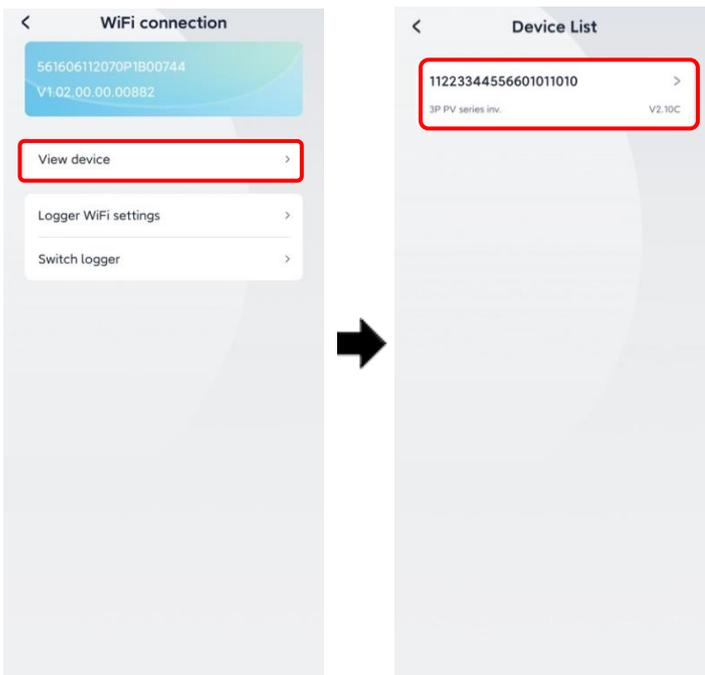

Figure4-11 Device list
Step 11 Click **View device**, the device list page displays the connected three-phase PV inverter, as shown in Figure4-11.